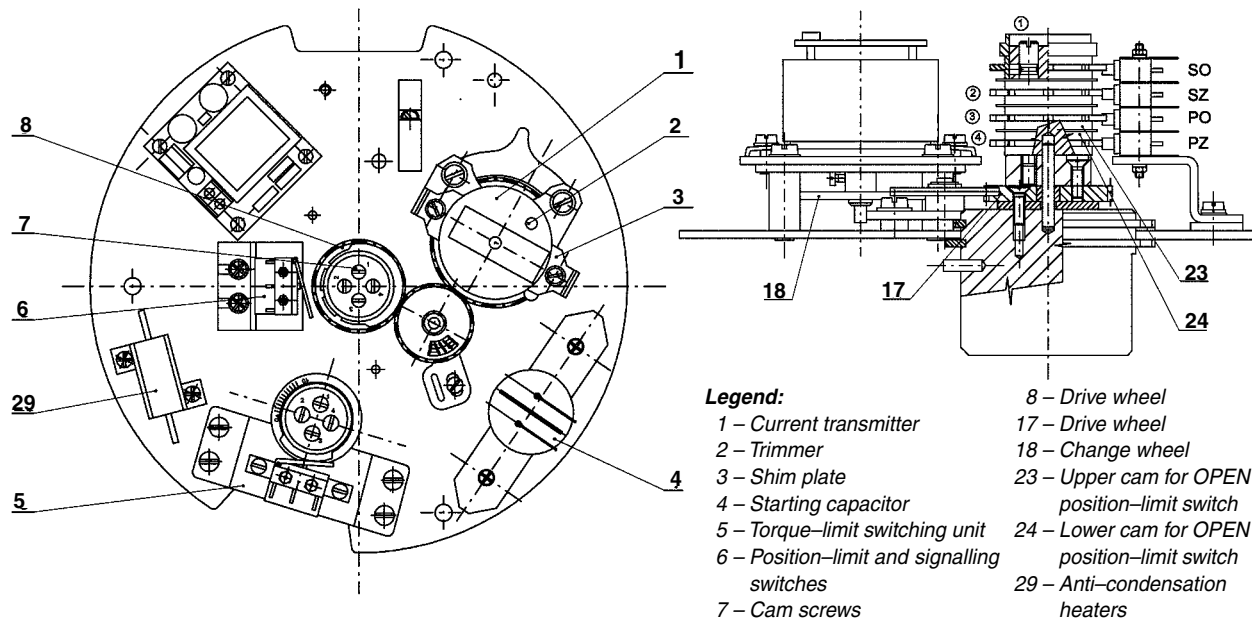
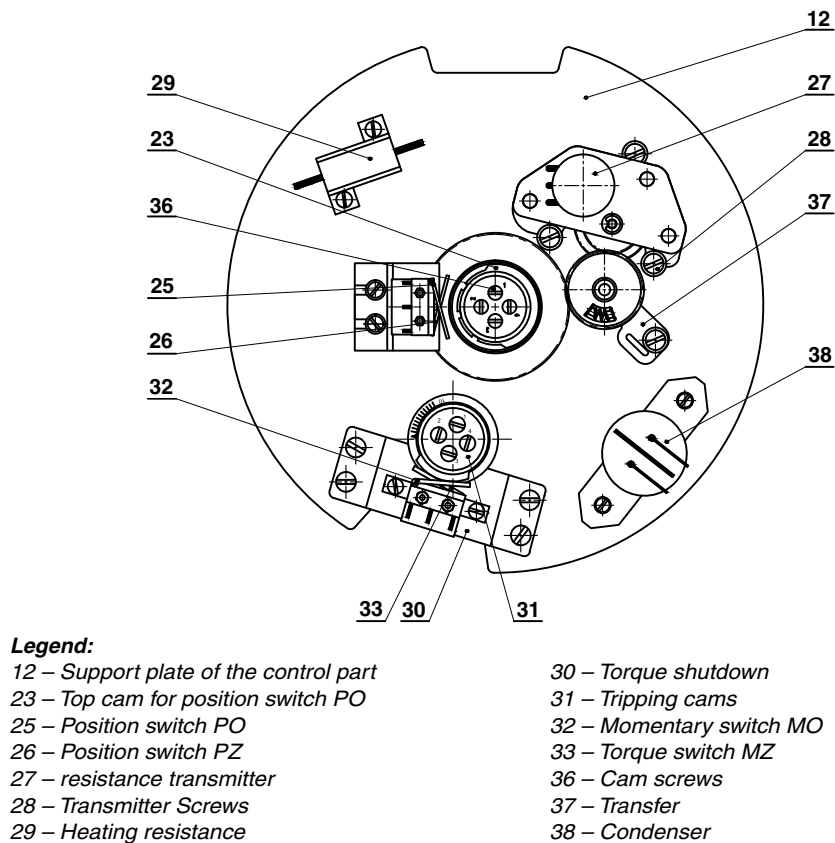

Fig. 2 - Control board with current position transmitter
Fig. 3 - Control board with potentiometer 1 x 100 ohm
At lever actuator is on the side, that means on the opposite side to the module 5 of lever mechanism. To control box is mounted the terminal box 8, where is placed terminal, accessible after removing the lid 9. In control box is placed the control board 12 (Figs 2,3). Control box is covered by lid 10 (Fig. 1). In terminal box are screwing three bushings GP 16 11. On control board are placed individual function units.
- a) Torque-limit switches 32,33 (Fig. 3)
b) Position-limit switches 25, 26 (Figs 3, 5)
| c) Potentiometer | 27 | (Figs 3, 5) |
| Current position transmitter | 1 | (Fig. 2) |
| d) Adjusting cams of position-limit switches | 23, 24 | (Figs 3, 5) |
| e) Capacitor | 38 | (Fig. 3) |
| f) Anti-condensation heater (dual) | 29 | (Fig. 3) |
a) Torque tripping (Fig. 3)
Designed with a resistive, current transmitter and without a transmitter (Fig. 2, Fig. 3). This version is equipped four switches responding to the output shaft position – PO, PC, SO, SC. Switches SO, SC can be used for example to indicate the position of the output shaft.
d) Connection of current transmitter with drive (Fig. 2)
Bring the actuator into the CLOSE position by the handwheel, while turning the lever in the CLOSE direction. In its end position, the lever should be arrested by stop 15 of the lever assembly. Now, rotate the lower cam 24 clockwise till the leaf actuator 44 depresses the push button of the CLOSE position-limit switch 26 (Fig. 5). For adjustment, it is advisable to use an illuminated tester connected to the switch terminal with lights up at that moment. In this position, secure the cam 24 by retightening the two screws 37 (Fig. 3). Then, move the actuator to the opposite position, in which case the lever should be turned in the OPEN direction. After the lever has been arrested in the desired position by stop 15, turn the upper cam 23 (Fig. 5) anticlockwise till the cam changes over the OPEN position-limit switch
Adjustment of the OPEN and CLOSE position-limit and signalling switches in the design variant with the current transmitter (Fig. 2)
2. Remove the screws 37 and withdraw the cams. (Fig. 3)